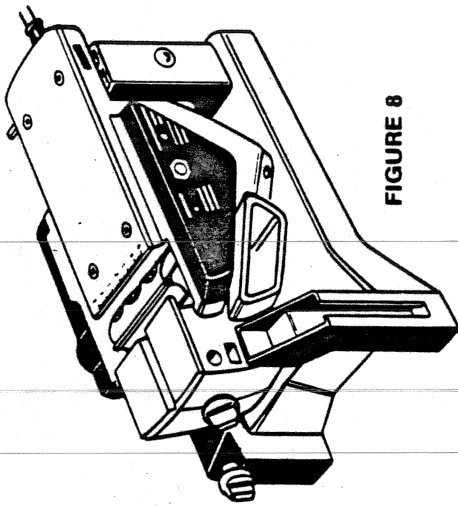

FIGURE 8
5. Tighten both knobs. (One in rear clamp and one in front jaw.) The Planer and Stand should now look like figure 8.